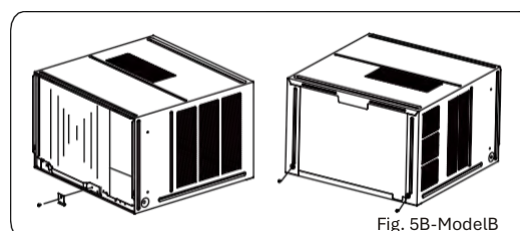

Fig. 5B-Model B
1. Remove one screw securing the chassis mounting bracket, then remove the chassis mounting bracket. Remove the two screws on the back of the cabinet, as shown in Figure 5B.